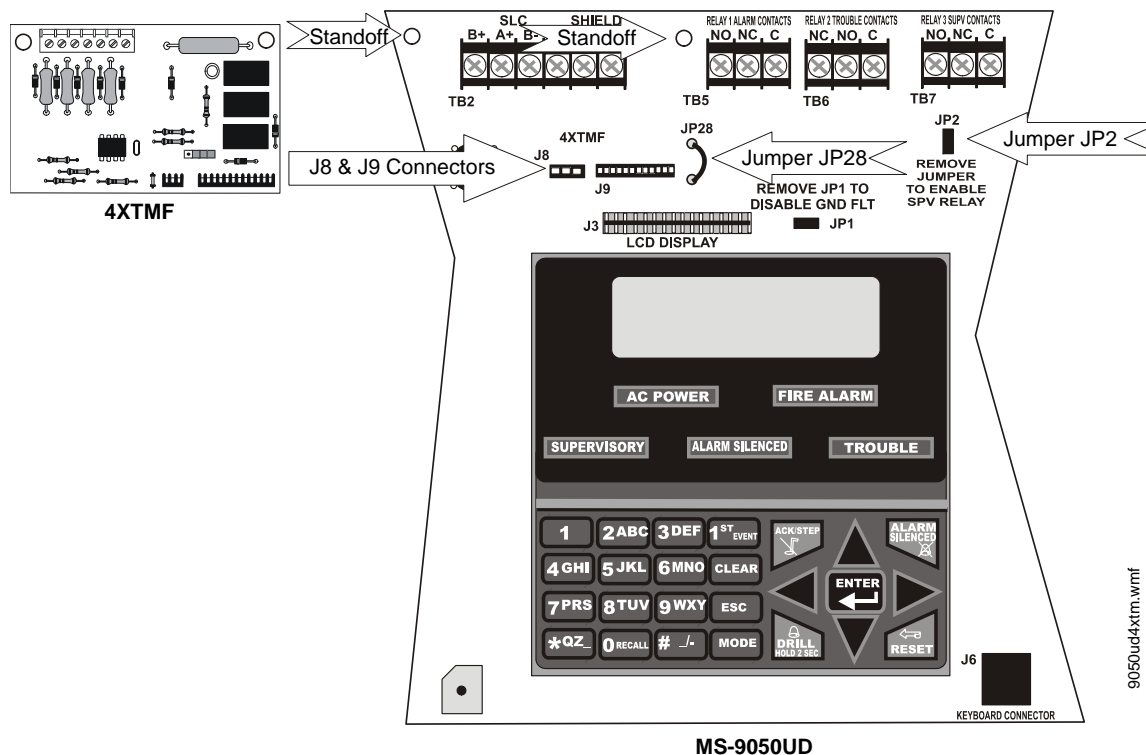

Figure 2.11 4XTMF Connectors to MS-9050UD Connectors
3. Remove two screws securing main circuit board to mounting plate and install two standoffs for securing 4XTMF module to main circuit board. Refer to Figure 2.11 for standoff locations on main circuit board.